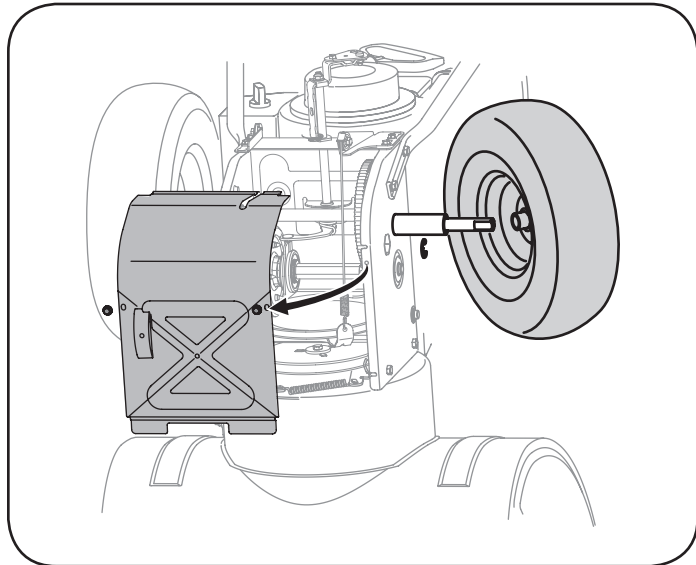

Figure 72
5. Remove the right-hand wheel by removing the screw and bell washer which secure it to the axle. See Figure 72.